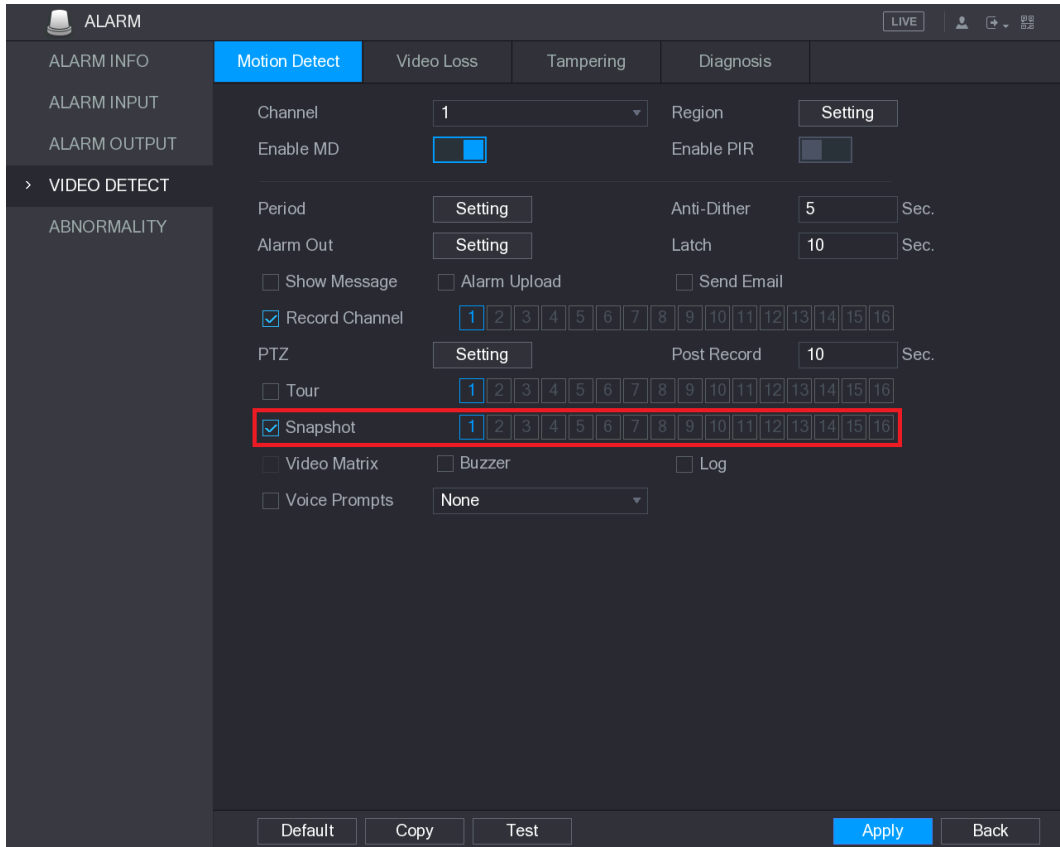

Figure 5-91
Step 3 Select **Main Menu > ALARM > VIDEO DETECT**, and select the event type to configure, for example, select the **Motion Detect** tab. See Figure 5-91.